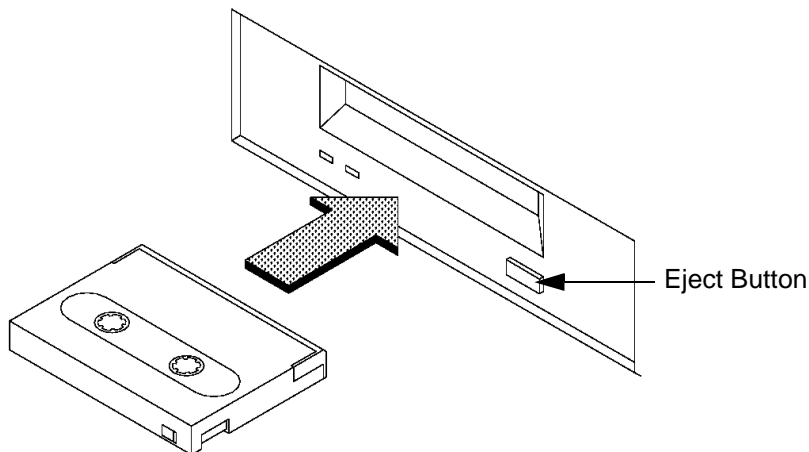

Figure 7-8
- 1 Insert the data cassette into the drive, as shown in Figure 7-8.
- 3 To remove the data cassette, press and release the eject button on the front of the drive, as shown in Figure 7-8. The LEDs on the drive flash on and off. Ten to twenty seconds later, the data cassette slides partway out of the drive. Remove the cassette from the drive.